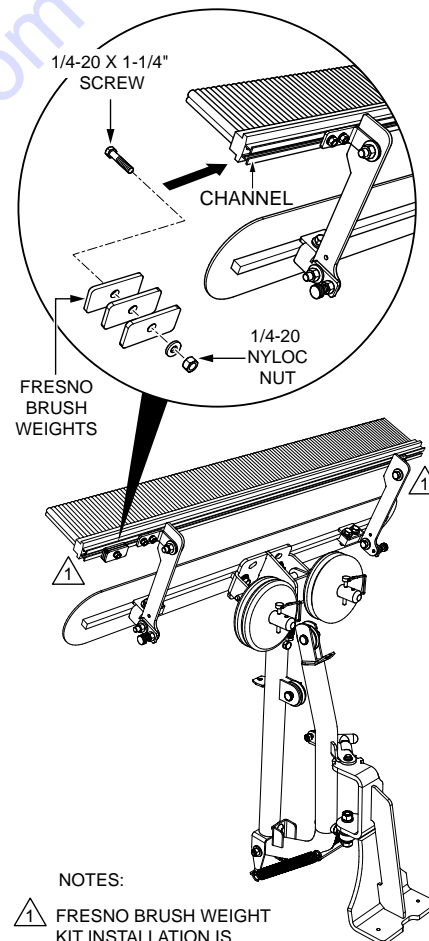

Figure 27. Brush Weight Kit Installation
1. Slide the 1/4-20 X 1-1/4" screw into the brush channel as shown in Figure 27.
2. Once correctly positioned, place the brush weights (3) onto the 1/4-20 X 1-1/4" screw as shown in Figure 27.